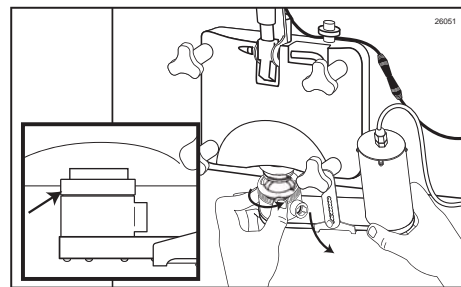

Figure 24
4. Rotate the Injector Head locking collar until it unlocks from the Spout Adapter and remove the Injector Head from the Adapter. (See Figure 24.)